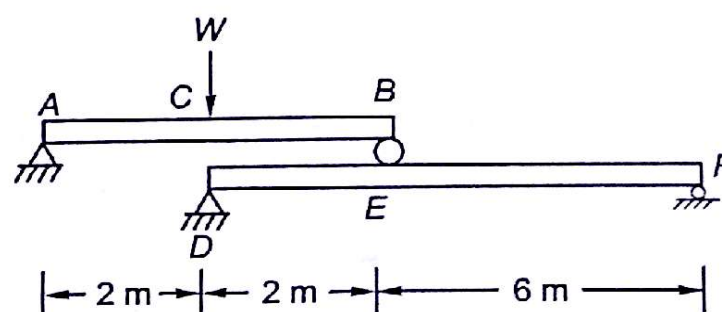

Fig. 9.35
9.4 Beams AB and DF carry load W as shown in Fig. 9.35. What is reaction at F ?